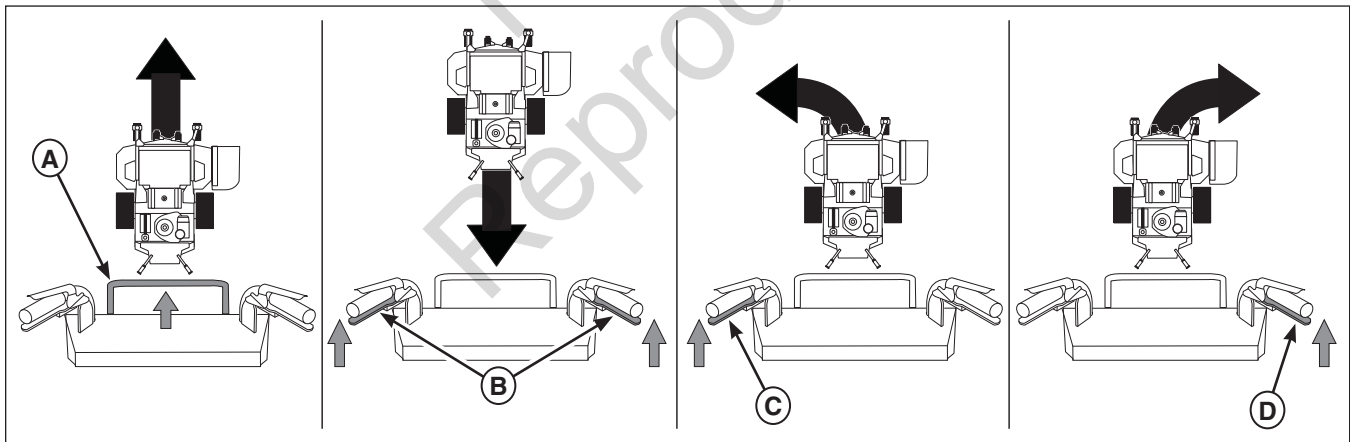

Figure 9. Driving the Mower
2. Gently move the forward speed control lever (**A**, Figure 9) forward until desired speed is achieved.